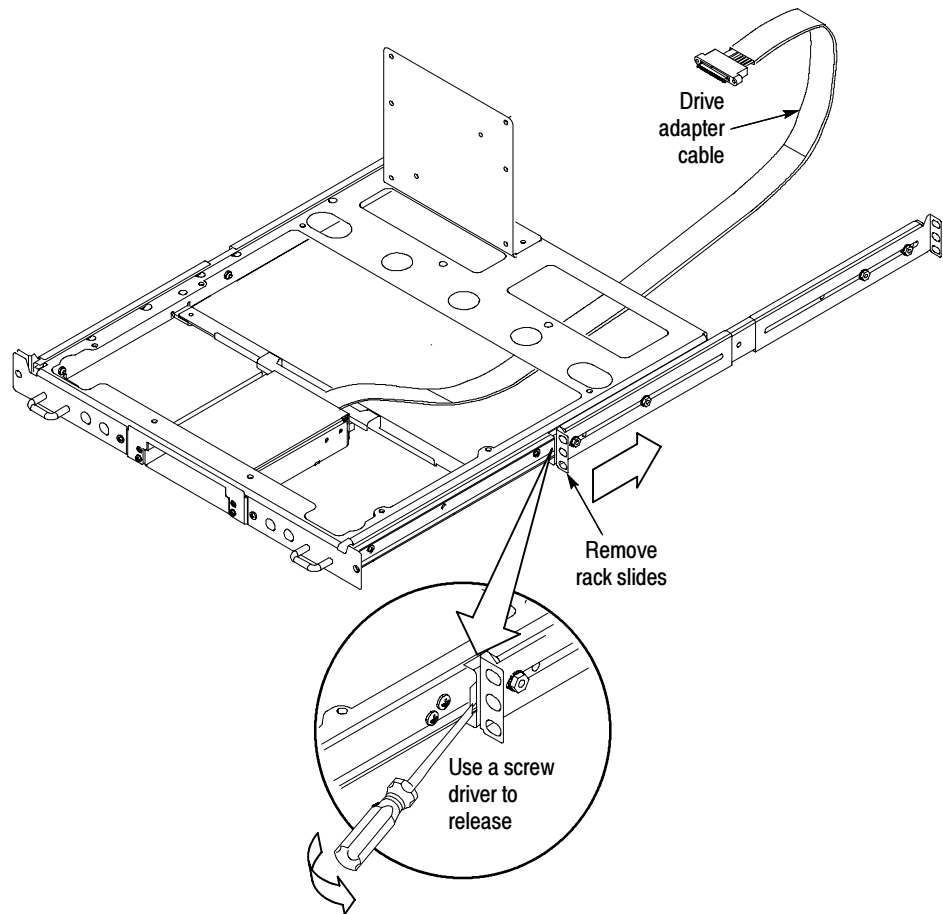

Figure 7: Removing the rack slides
3. Install the drive adapter cable to the drive adapter. Dress the drive adapter cable as shown in Figure 7.
4. Remove the rack slides. See Figure 7.